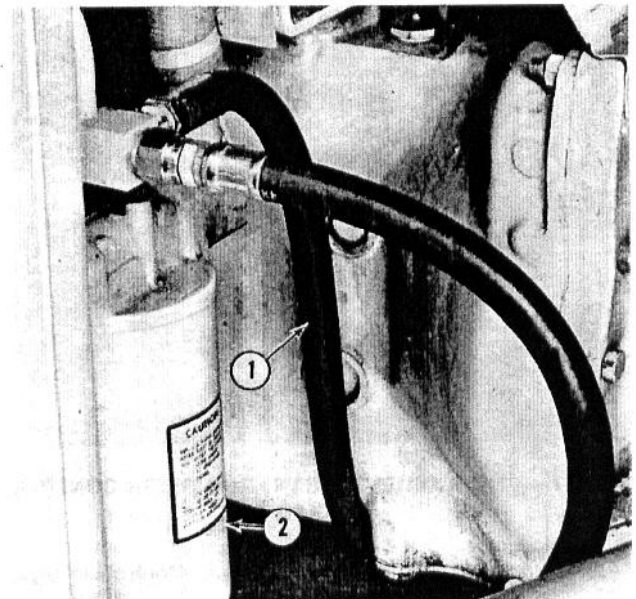

Fig. 5 — LIFT CYLINDER HEAD-END HOSE RE-ROUTED BENEATH TRANSMISSION CASE
c. Remove the clamp securing the lift cylinder, head-end crossover hose and re-route this hose beneath the transmission case. See Fig. 5.